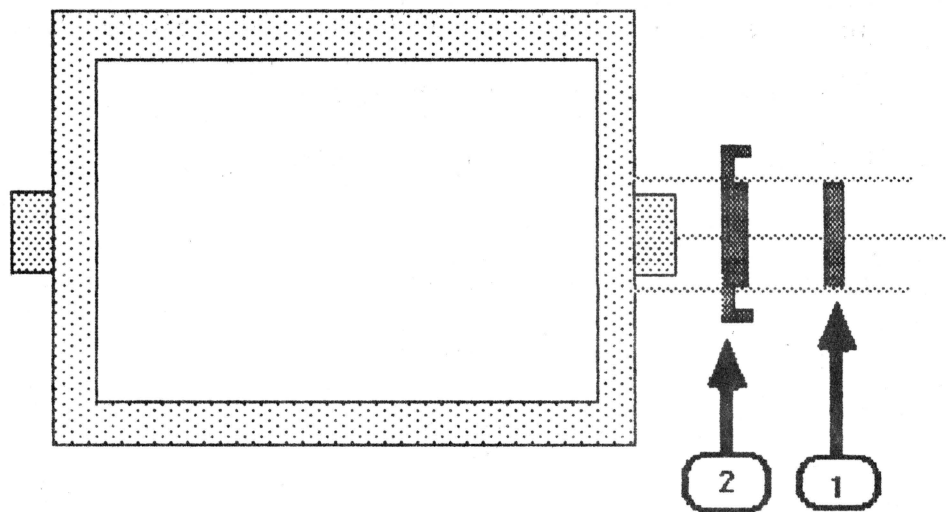

FIGURE 19
6. Remove the metal ring (Figure 19, #1) and bracket (Figure 19, #2) from the mask axles on both sides of the mask.
1. Place the metal brackets (Figure 19, #2) and rings (Figure 19, #1) back onto both mask axles.